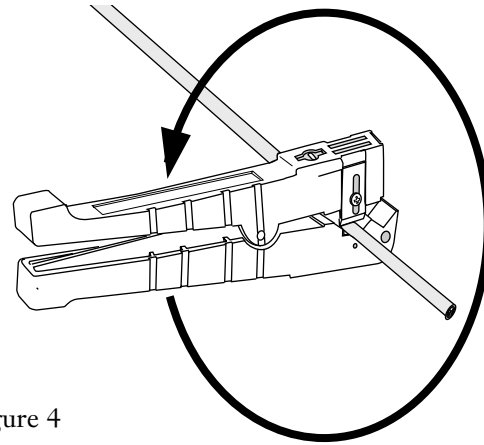

Figure 4
- Use your other hand to rotate the tool around the cable sheath one complete turn to score it (Figure 4). Remove the tool from the cable.